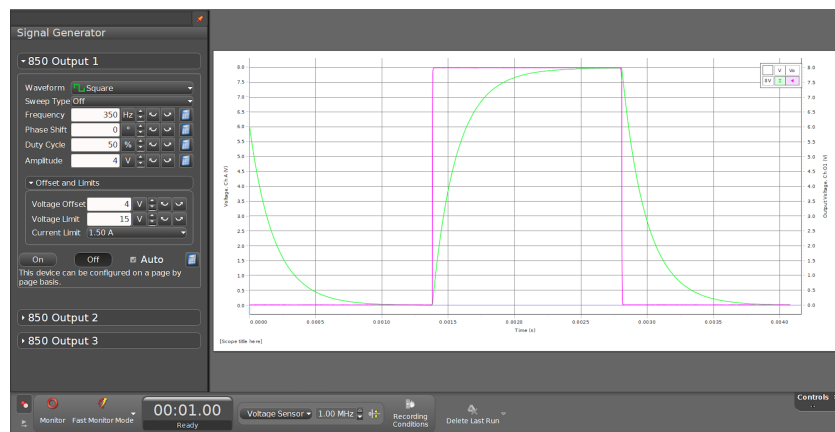

Figure 8: Adjusted scale on the oscilloscope showing a complete cycle.
5. Right Click and Drag Right until there is a complete cycle as shown in Figure 8.
6. Click Stop when your scope looks similar to Figure 8.
8. Right Click and Drag Right until there is a complete cycle as shown in Figure 8.
9. Click Stop when your scope looks similar to Figure 8.